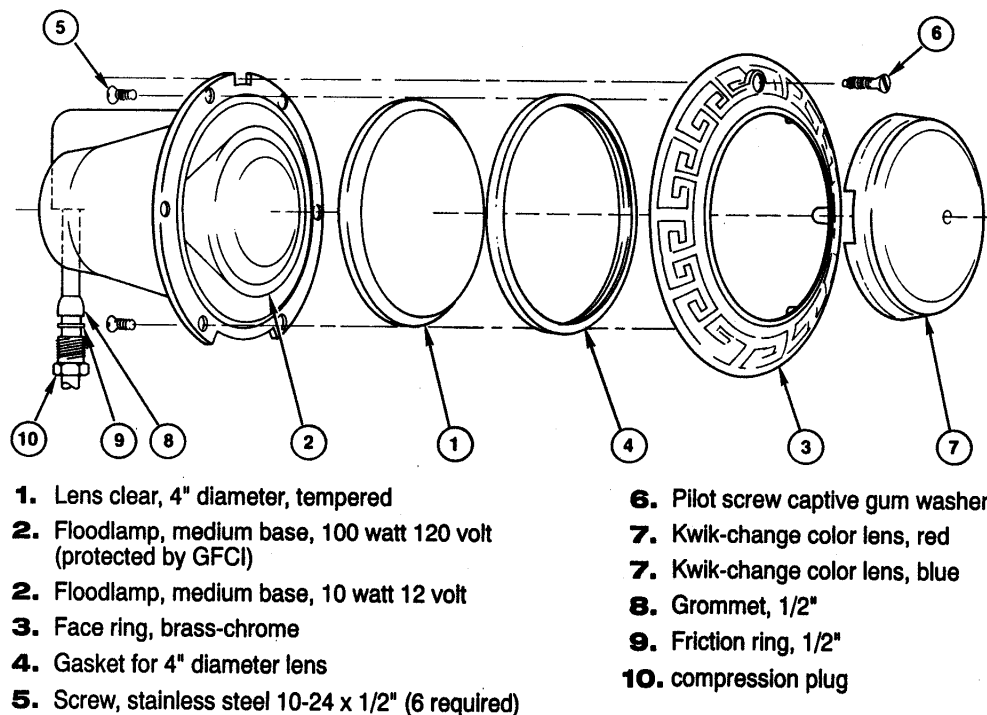

Figure 8. Light mounting steps
7. Wrap light cord slack around back of light housing and attach light to niche with mounting screw. (See Figure 8)